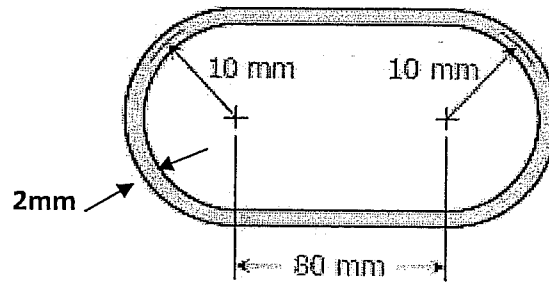

Figure Q6
- (b) A tube of 2mm thick has the shape as shown in Figure Q6. A torque of 600Nm is applied about the axis of the tube. Find the shear stress on the surface. **8 marks**